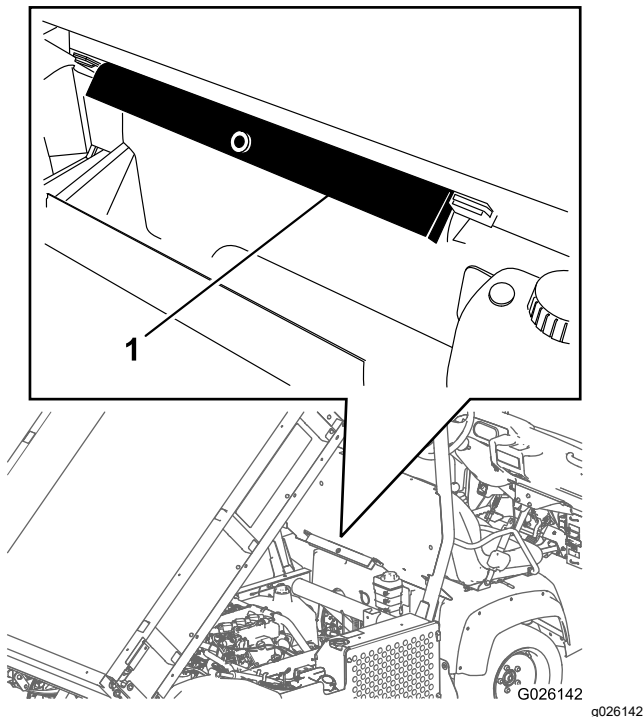

Figure 19
2. Remove the bed support from the storage brackets on the back of the ROPS panel (Figure 19).